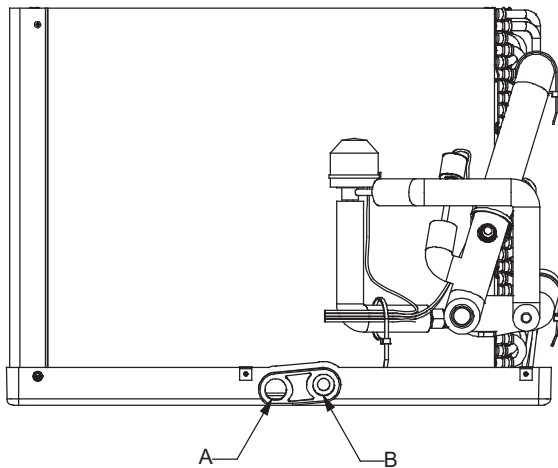

Figure 12
Condensate drain connections are located in the drain pan at the bottom of the coil/enclosure assembly see Figure 12. Use the female (3/4" FPT) threaded fitting that protrudes outside of the enclosure for external connections. The connectors required are (3/4" NPT) male, either PVC or metal pipe and must be hand tightened to a torque of no more than 37 in-lbs, to prevent damage to the drain pan connection. An insertion depth between .36 to .49 inches (3-5 turns) should be expected at this torque.
Drain port labeled (A) in Figure 12 is the primary drain and condensate drain line must be attached to this drain port.